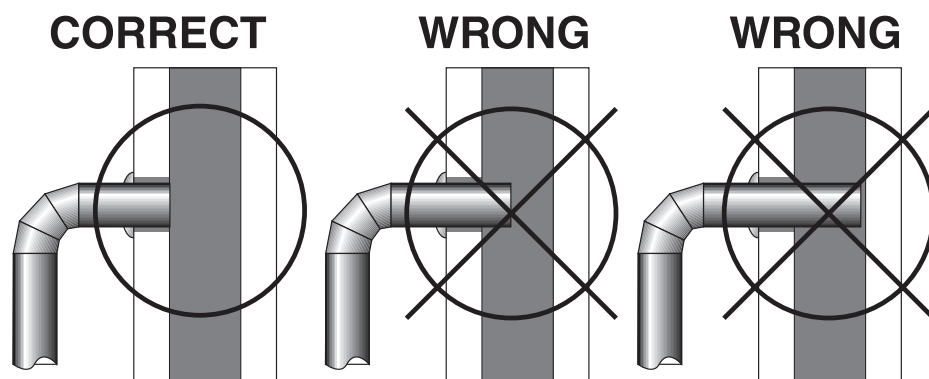

Figure 8 – Stovepipe/Flue Connections
1. The crimped end of the stovepipe fits inside the stove flue collar. Secure with three (3) equally spaced sheet metal screws. The first section of connector pipe must be single walled to properly attach to the stove collar. Install additional pipe and elbow with the crimped end towards the stove. This will allow any condensation in the flue to run back into the firebox.
4. The pipe cannot extend into the chimney flue (figure 8).
5. Secure all pipe/elbow sections with three (3) equally spaced sheet metal screws at each joint to make the piping rigid. **DO NOT CONNECT THIS STOVE TO ANY AIR DISTRIBUTION DUCT OR SYSTEM.**
6. It is recommended that no more than two (2) 90° bends be used in the stovepipe installation. The use of more than two 90° bends may decrease the amount of draw and possibly cause smoke spillage. Where possible, use only corrugated (non adjustable) elbows. These provide a better seal.
7. The connector pipe must not pass through an attic or roof space, trusses, closet, or any concealed space, floor, ceiling, wall, or combustible construction. (See Chimney Connector Systems & Clearances, page 13.) A manufactured chimney system listed to UL 103 HT (US)/ULC-S629 (CDN) must be used from the first penetration of ceiling or wall to the chimney cap.
4. Install the stovepipe into the thimble as far as possible without extending past the flue lining (see figures 8 & 10 on pages 9 & 11).